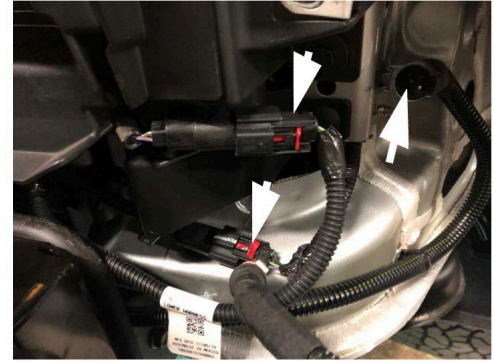

Figure 12.
11. As you remove the bumper, unplug the sensor, heater plug, and lower louver harnesses located on the driver side of the truck. Figure 12.